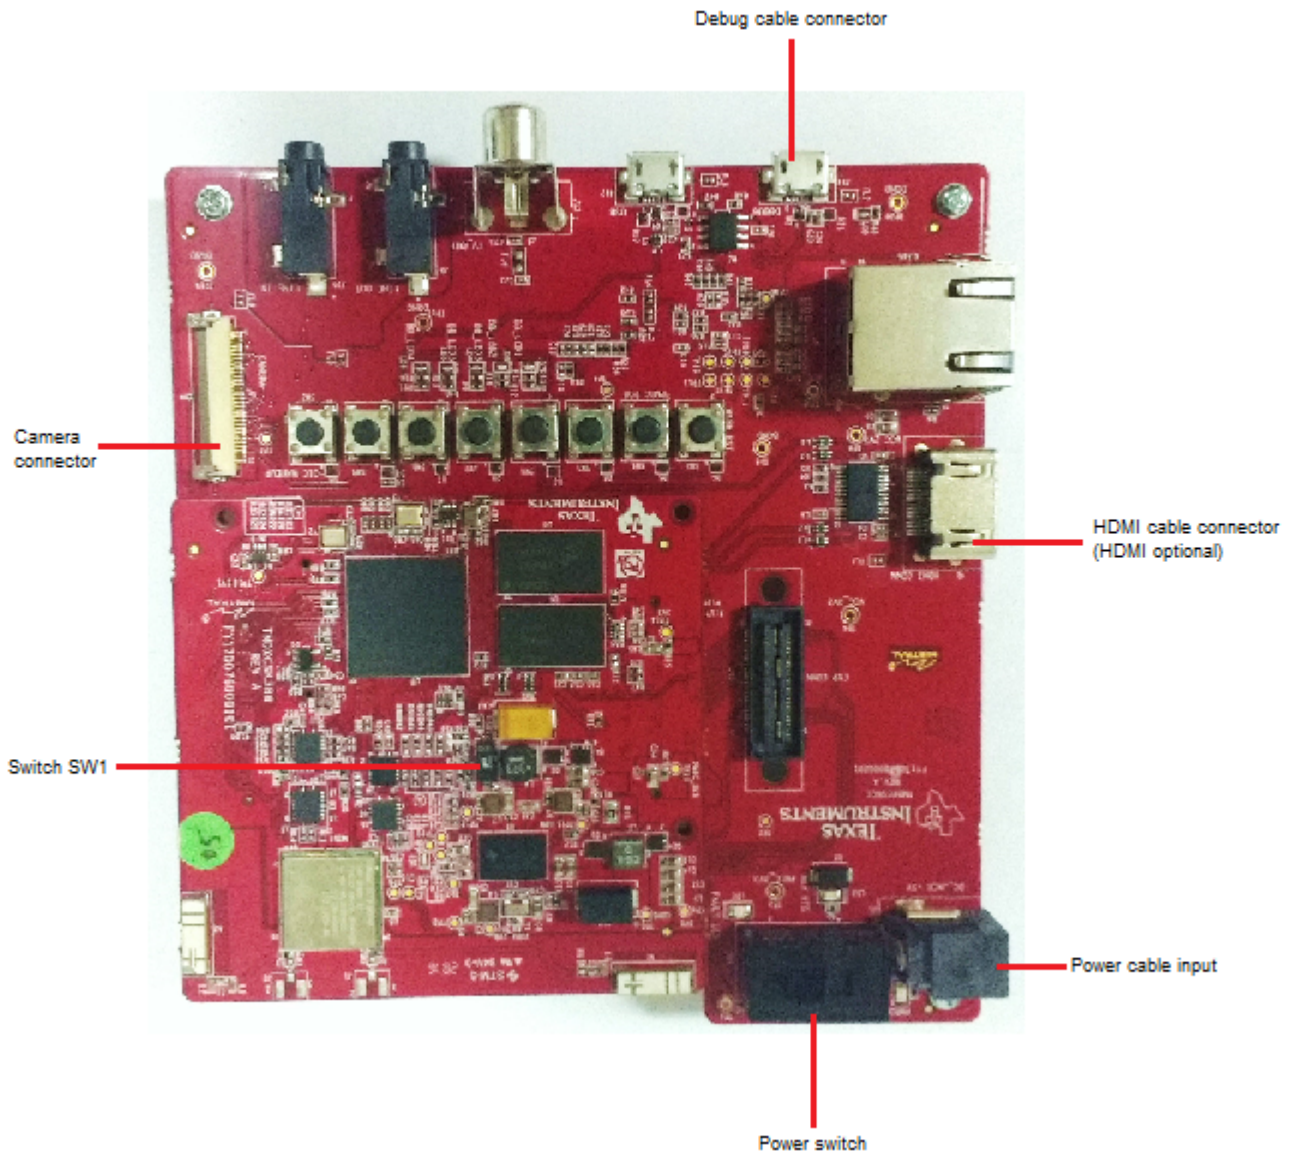

Figure 2. DM388 CSK Connections (1 of 2)
2. Set switch 1 (SW1) to ON (see Figure 2).